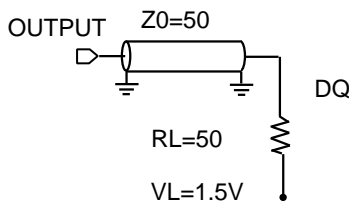
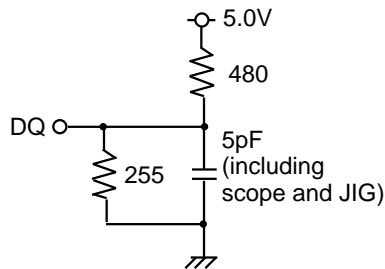

Fig.1 Output load
Fig.2 Output load for t_{en}, t_{dis}
(1) MEASUREMENT CONDITION
- Output loads Fig.1, Fig.2
4. Transition is measured $\pm 500\text{mv}$ from steady state voltage with specified loading in Figure 2.